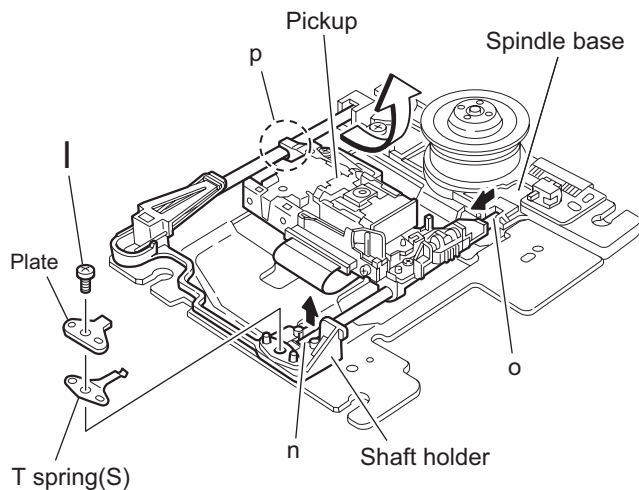

Fig.17
2.4.3 Removing the pickup (See Fig.17~19)